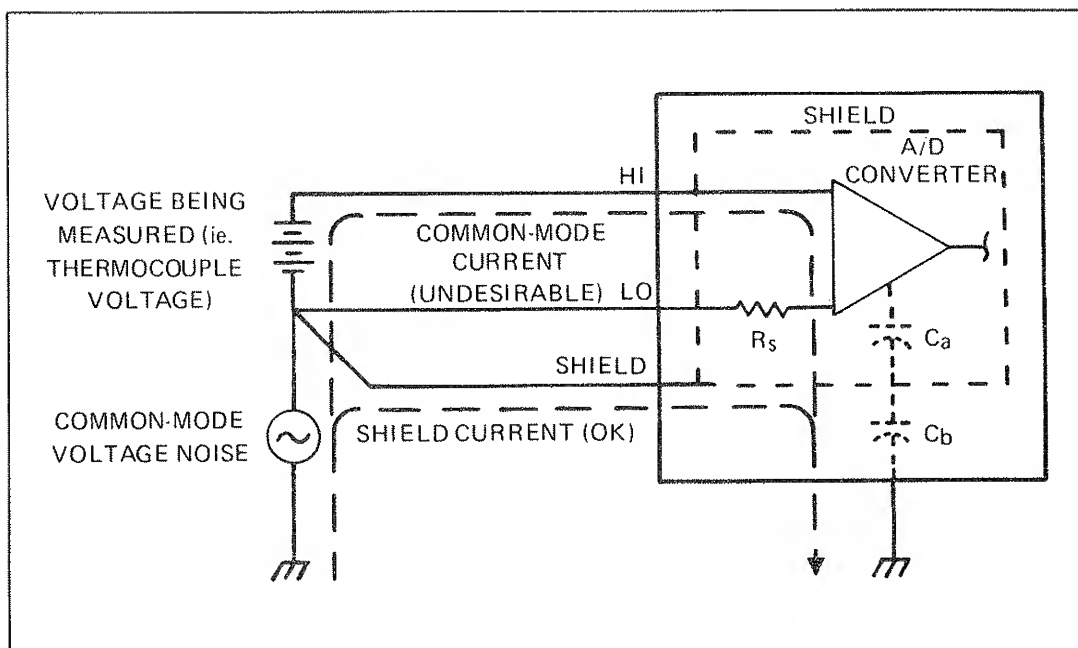

Figure 628-2. Shield Connection For Optimum Common Mode Rejection
628-24. The purpose of the SHIELD connection is to improve rejection of common-mode voltage noise. This is done by connecting the SHIELD lead to the LO lead at the measurement point as shown in Figure 628-2. In the presence of common-mode voltage, this connection provides a path for the current which flows as the capacitance between the A/D Converter and the chassis is being charged or discharged. Since the A/D Converter and the Shield (built into the instrument) are forced to track the same voltage, the common-mode current in the HI and LO leads is minimized. It is this current which produces unstable readings. It is important to note that HI, LO and Shield are fully isolated and capable of being safely floated to 350 Volts above ground. The following guidelines should be followed when connecting the Current Transmitter Connector:
2. If significant common mode voltage (greater than one volt) is present, connect SHIELD to LO by means of a third wire at the measurement point as shown in Figure 628-2.